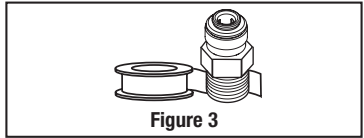

Figure 3
4. Apply one or two turns of PTFE tape to thread of push-in fitting. Thread fittings into port of filter body. Tighten fittings snugly, but do not overtighten. (Figure 3)